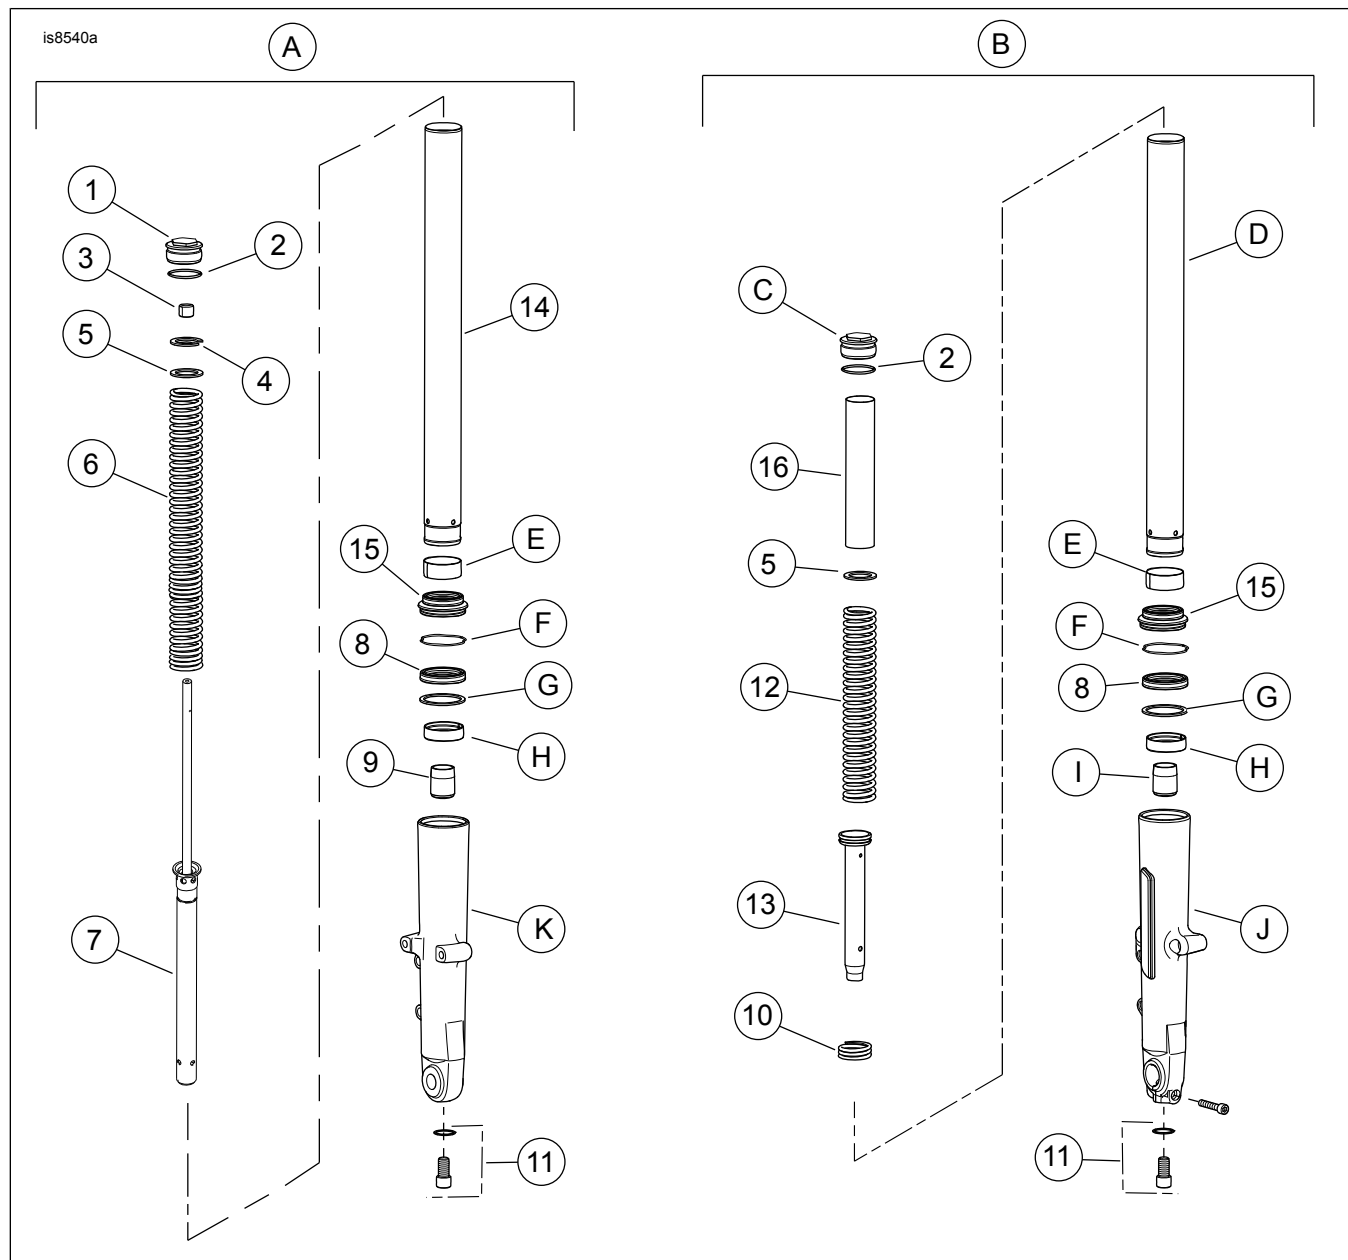

Figure 8. Service Parts: XL Mid Cartridge Front Fork Kit
Refer to Figure 8 for the following procedure.
- a. Clamp tool in vise in a vertical position with length adjustment screw (2) upward.
- b. Place hole at bottom of fork slider over post (5) at bottom end of tool.
- c. Place flat washer (Item 5, Figure 8), over the damper rod extension tool and on top of spring. Place spring seat (Item 4, Figure 8), concave side up, on top of the flat washer. With the smaller OD upward, place spring compressor collar (item 4, Figure 5) over spring seat and flat washer.
- d. Adjust tool as necessary until three retaining pins (3) engage blind holes in spring compressor collar (4). Turn length adjustment screw counterclockwise to lengthen and clockwise to shorten.
23. See Figure 8. Install **new** jamnut (3) with non-threaded end over the damper rod first. Thread onto damper rod until it bottoms out on the shoulder.
26. Install **new** O-ring (2) onto **new** fork bolt (1). Thread fork bolt onto threaded end of damper rod until it bottoms. Turn jamnut counterclockwise until it makes firm contact with the fork bolt. Tighten jamnut to $20 \pm 2.5 \text{ N}\cdot\text{m}$ ($15 \pm 2 \text{ ft}\cdot\text{lbs}$).